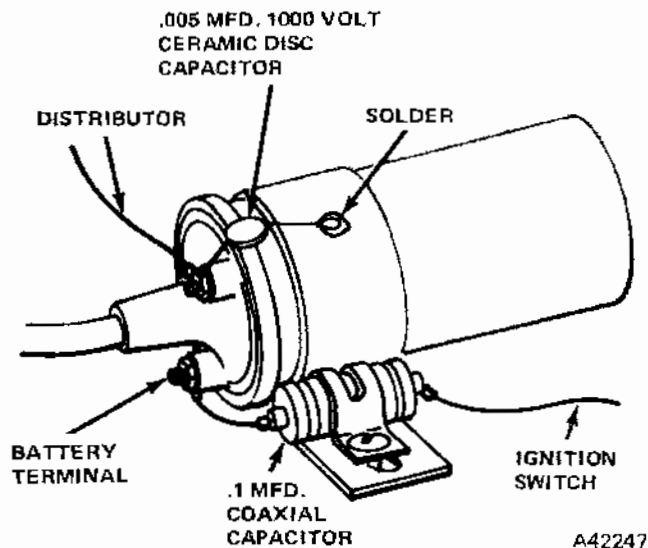

Fig. 3-92 Special Noise Suppression
(2) Install a 0.005 mfd, 1000-volt ceramic disc capacitor at the coil distributor terminal (fig. 3-92).
(3) Install a 0.5 mfd coaxial capacitor at the alternator output terminal. Be sure it is rated to handle the maximum alternator current.